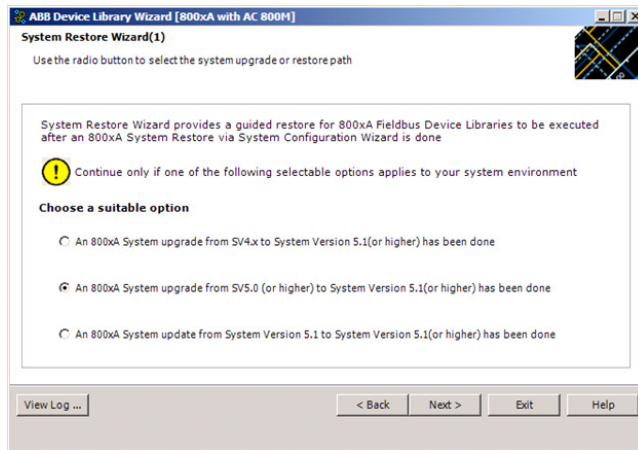

Figure 7. System Restore Wizard (1)
- Choose the second option in the System Restore Wizard as shown in Figure 7 and click **Next**.